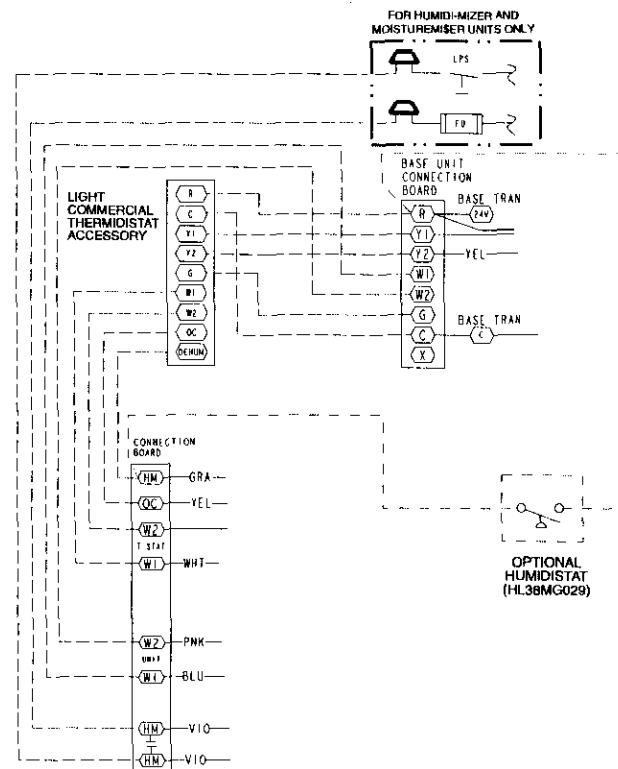

Fig. 30 — Light Commercial Thermidistat Accessory Low-Voltage Connections
Power — Note that this control does not require batteries and is not “power stealing.” It does require 24 vac (R and C terminals) from the rooftop section's low-voltage transformer to be connected to it for proper operation. The control will not operate without these 2 connections. See Fig. 30.
7. Match and connect equipment wires to proper terminals of each connector block. Remember R and C must be connected for proper operation (see Fig. 30).